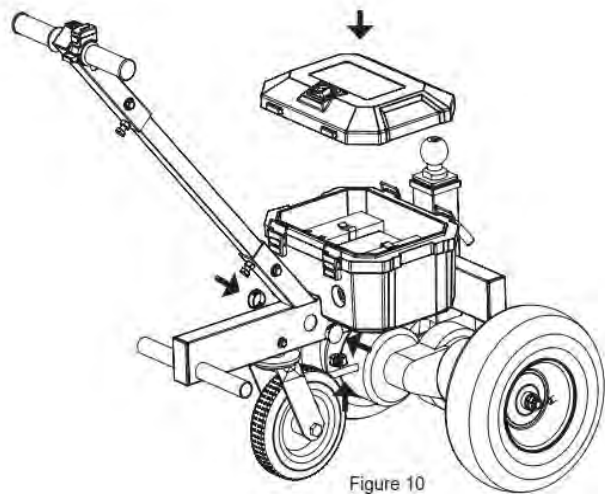

Figure 10
- After the wire connection, lock the battery box, seal with the plug, installation finished. (See Figure 10)